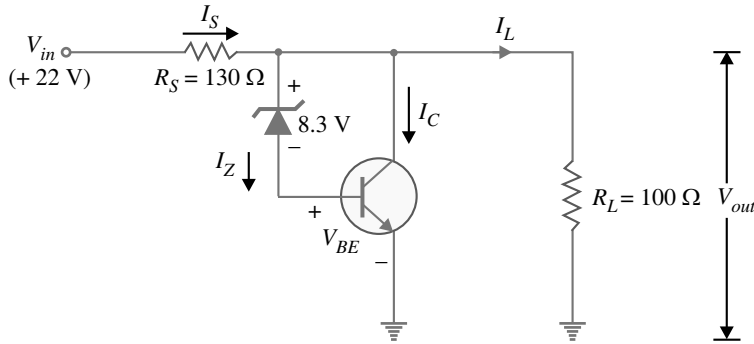

Fig. 15.23
**Example 15.23.** Determine the (i) regulated voltage and (ii) various currents for the shunt regulator shown in Fig. 15.23.